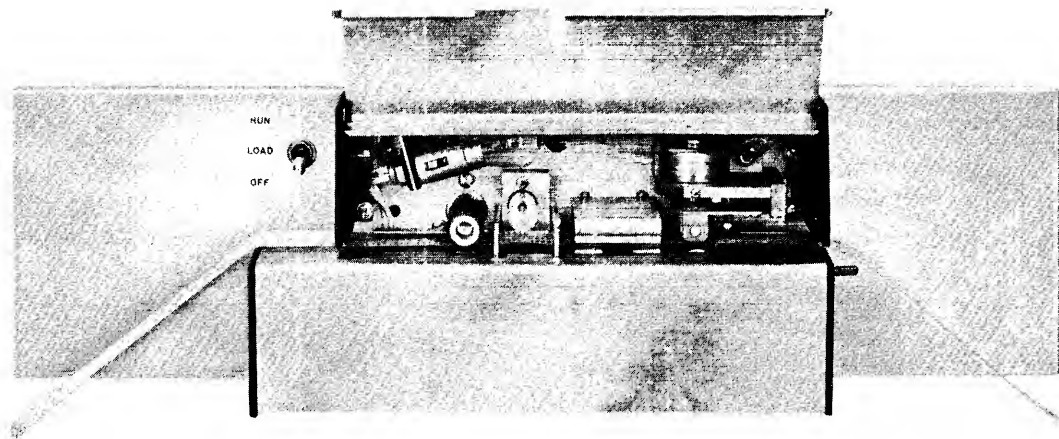

Figure 3-2. Tape Path
- With ac power applied, and the Power switch in the RUN position, swing open top door (see Figure 3-2) and observe that the capstan(s) rotate.
- d. Thread tape through reader with channel one side of tape nearest panel (see Figure 3-2).